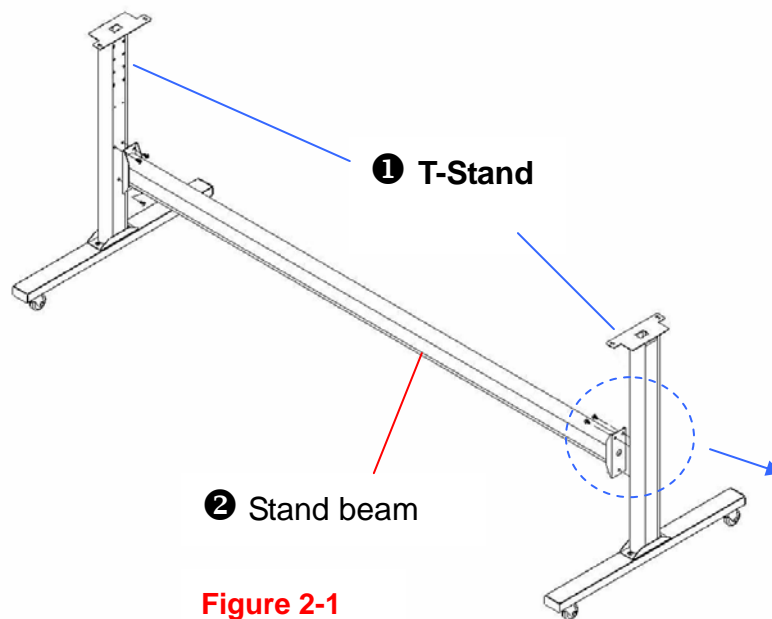

Figure 2-1
(See Figure 2-1 & 2-2)
Position the stand beam perpendicularly to part ❶ and put the screws into the holes and tighten them as Figure 2-2. Then the complete picture of stand will be like Figure 2-1.